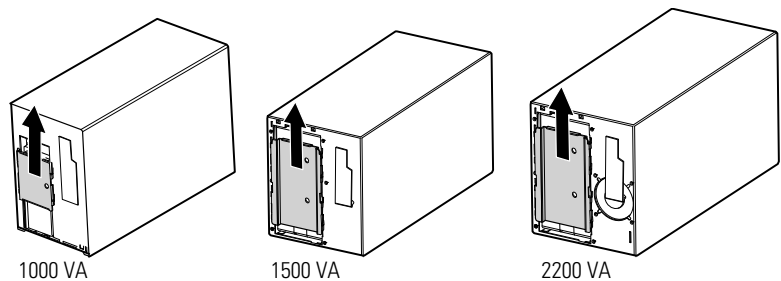

Figure 24. Removing the Battery Cover
2. Slide up and remove the metal battery cover (see Figure 24).